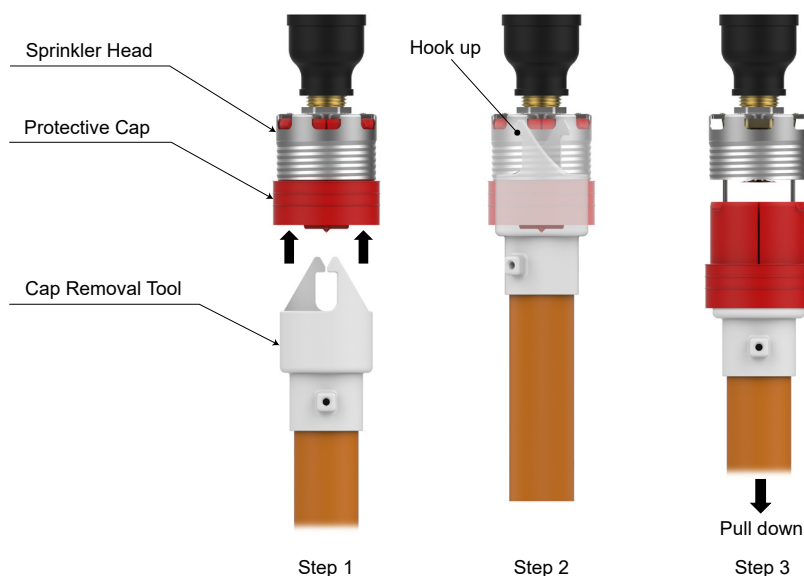
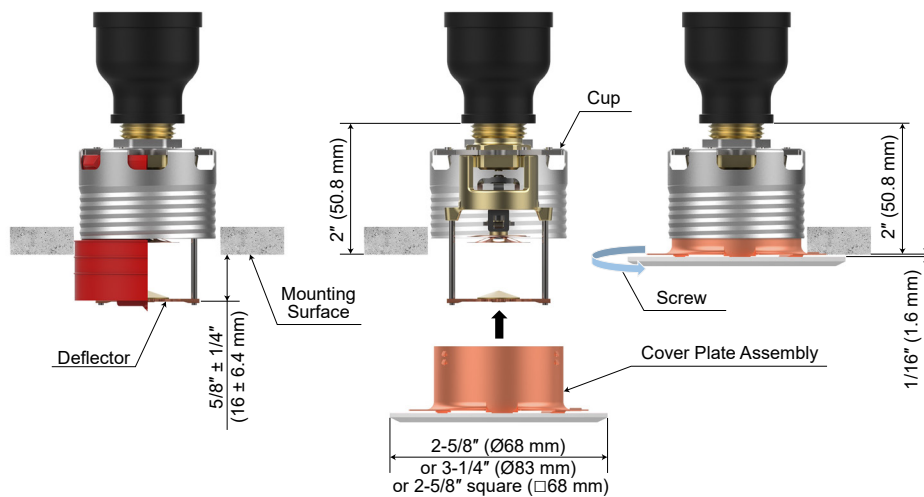
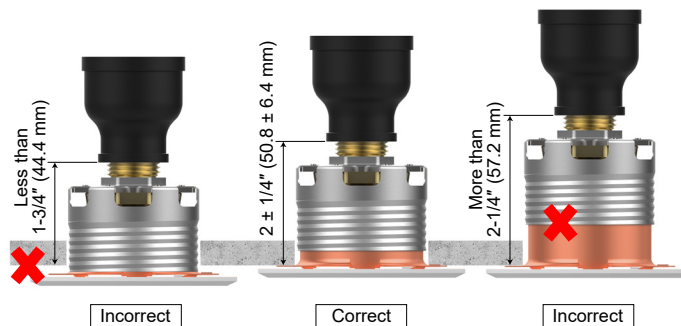

Figure 5: Protective Cap Removal
Figure 6: Installation (Cover Plate Assembly)
Figure 7: Installation (Correct and Incorrect)
Step 4: Use the Cap Removal Tool for RC to remove the Protective Cap (Ref. Figure 5), and then push or screw a Cover Plate Assembly on the Cup of the Sprinkler by hand until its flange just has contact with the ceiling (Ref. Figure 6 and Figure 7). Stop tightening the Cover Plate Assembly once the flange has contact with the ceiling. If the ceiling has been lifted from its normal position in the process of tightening the Cover Plate Assembly, readjust the cover plate assembly as necessary. If the flange of the Cover Plate Assembly cannot contact the ceiling sufficiently, readjust the sprinkler fitting as necessary. When properly installed, there is a nominal 1/16 inch (1.6mm) air gap between the lip of the Cover Plate and the ceiling, as shown in Figure 6.
Install the cover plate assembly properly, as shown in Figure 6. Improper installation of the cover plate assembly may cause improper operation or non-operation.